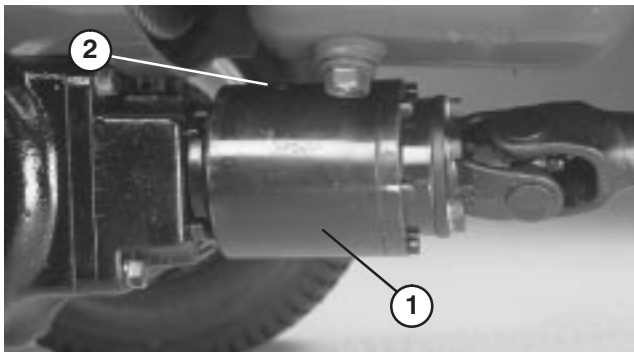

Figure 71
3. Rotate clutch so check plug is positioned downward (Fig. 71).